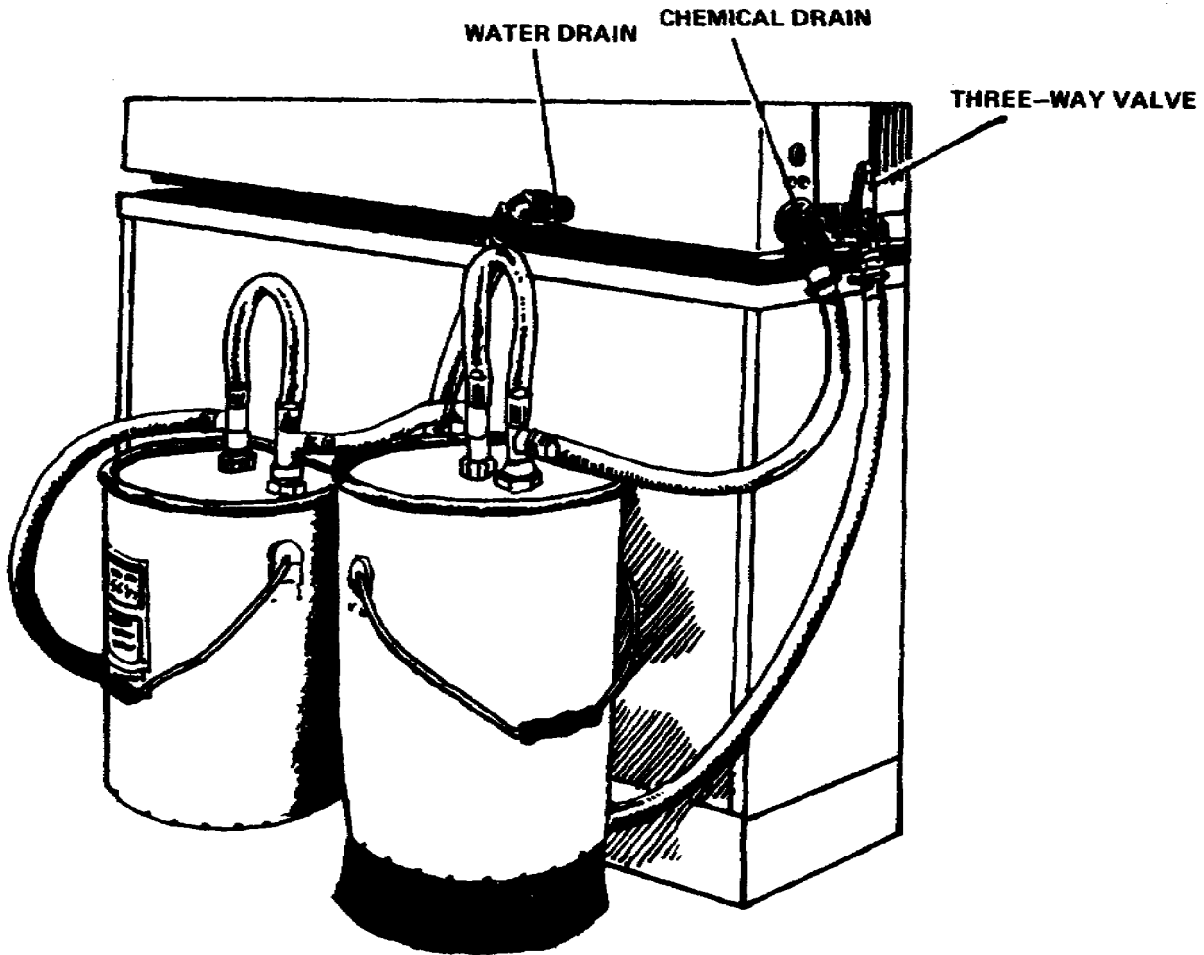

Figure 2-5. Hookup for silver recovery
2. A satisfactory hookup for silver recovery is shown in Figure 2-5. All of the chemical solutions; activator, stop bath, and fixer are drained through two KODAK Chemical Recovery Cartridges, Type 2-P, connected in series.